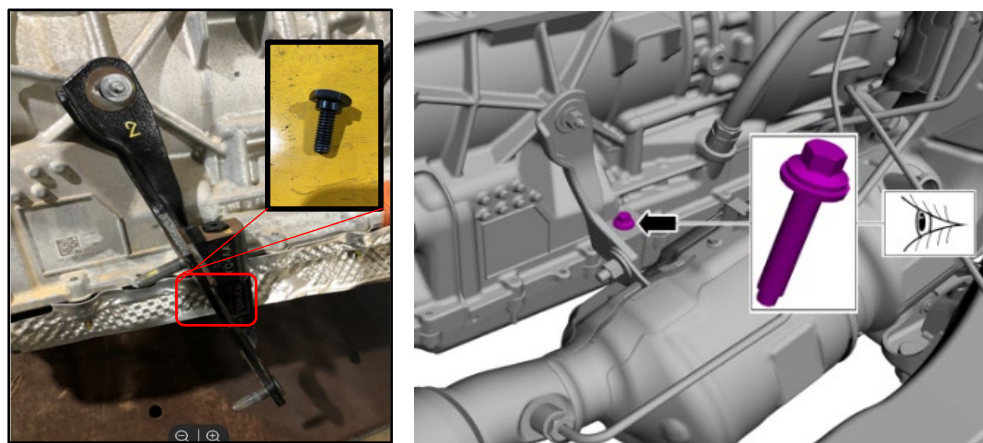

FIGURE 17
17. Remove the supplied alignment shoulder bolt and re-install the original DPF rear mounting bracket bolt and torque to the specified value. Refer figure 17